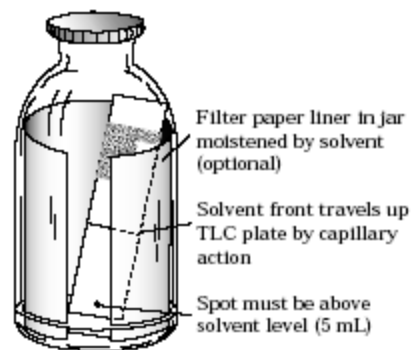

Figure 3. Development jar.
4. Obtain a one-pint (16 oz) canning jar with a screw-cap lid for the development chamber. It should contain a filter paper liner as shown in Figure 3. Add ethyl acetate to the jar to a depth of about 0.5 cm and swirl to moisten the paper liner.